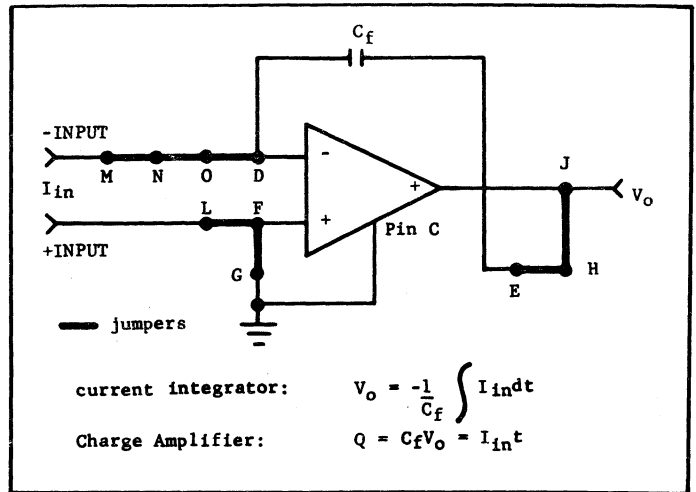

FIGURE 12. Current/Charge Amplifier
7. Current Integrator or Charge Amplifier. In this mode a capacitor C_f is connected in the feedback loop as shown in Figure 12. The output voltage is a function of the integral of current where